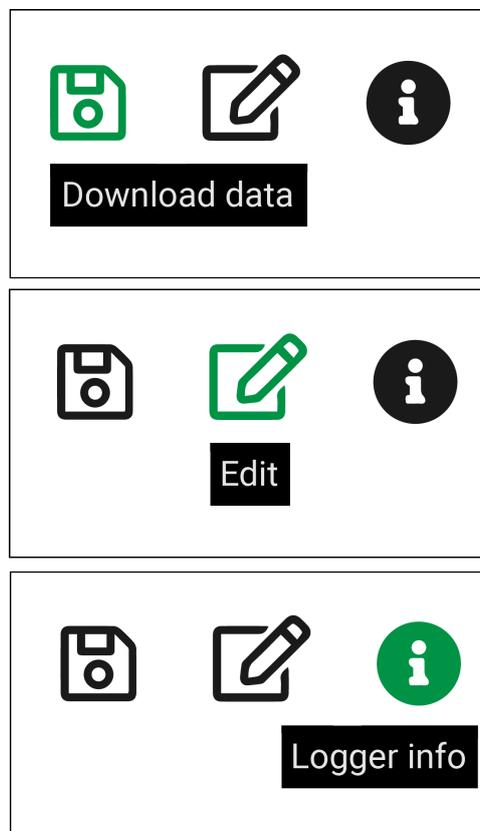
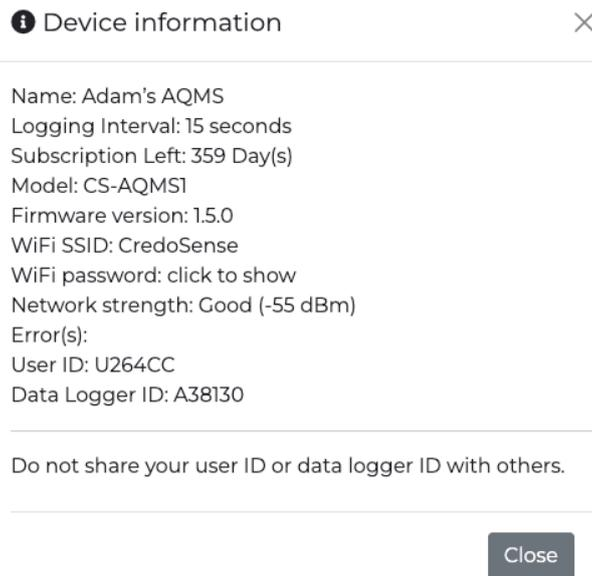

Figure 24: Menu for device information, edit device, and download data.
Figure 25: Device information.
In Figure 24, three icons are presented, with the icon on the right featuring an “i” symbol designated for device information. Clicking on it will open a small window displaying device information, as illustrated in Figure 25. You will also receive the current firmware version you are using from here. The icon in the middle, featuring a pen and paper sign, is designated for editing the device. From here, you can modify your logger name, set logging intervals, delete the logger, and erase data.
1. Click on the download icon shown in Figure 24. A new window will appear. Select the date and time, then proceed to download your data. Alternatively, choose to download data by selecting from a preset time duration listed at the bottom of Figure 27.